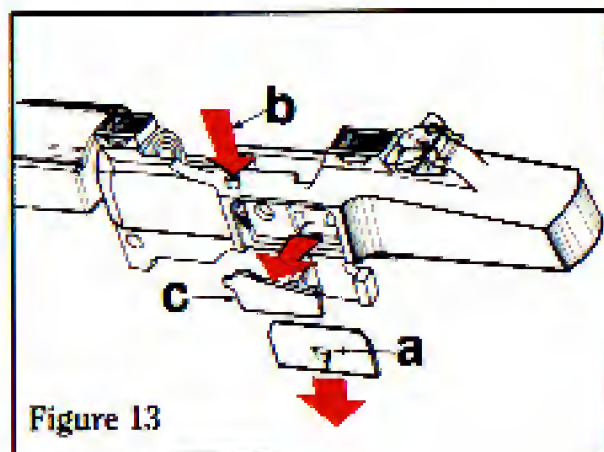

Figure 13
9. Remove bolt lock cover plate by carefully tapping downward (with a soft-metal punch) at point "a". (See Fig. 13). With cover plate removed, depress bolt lock plunger, "b", which will allow ejector/bolt stop, "c", to be lifted out. (See "Caution" in step 6, p. 19.)